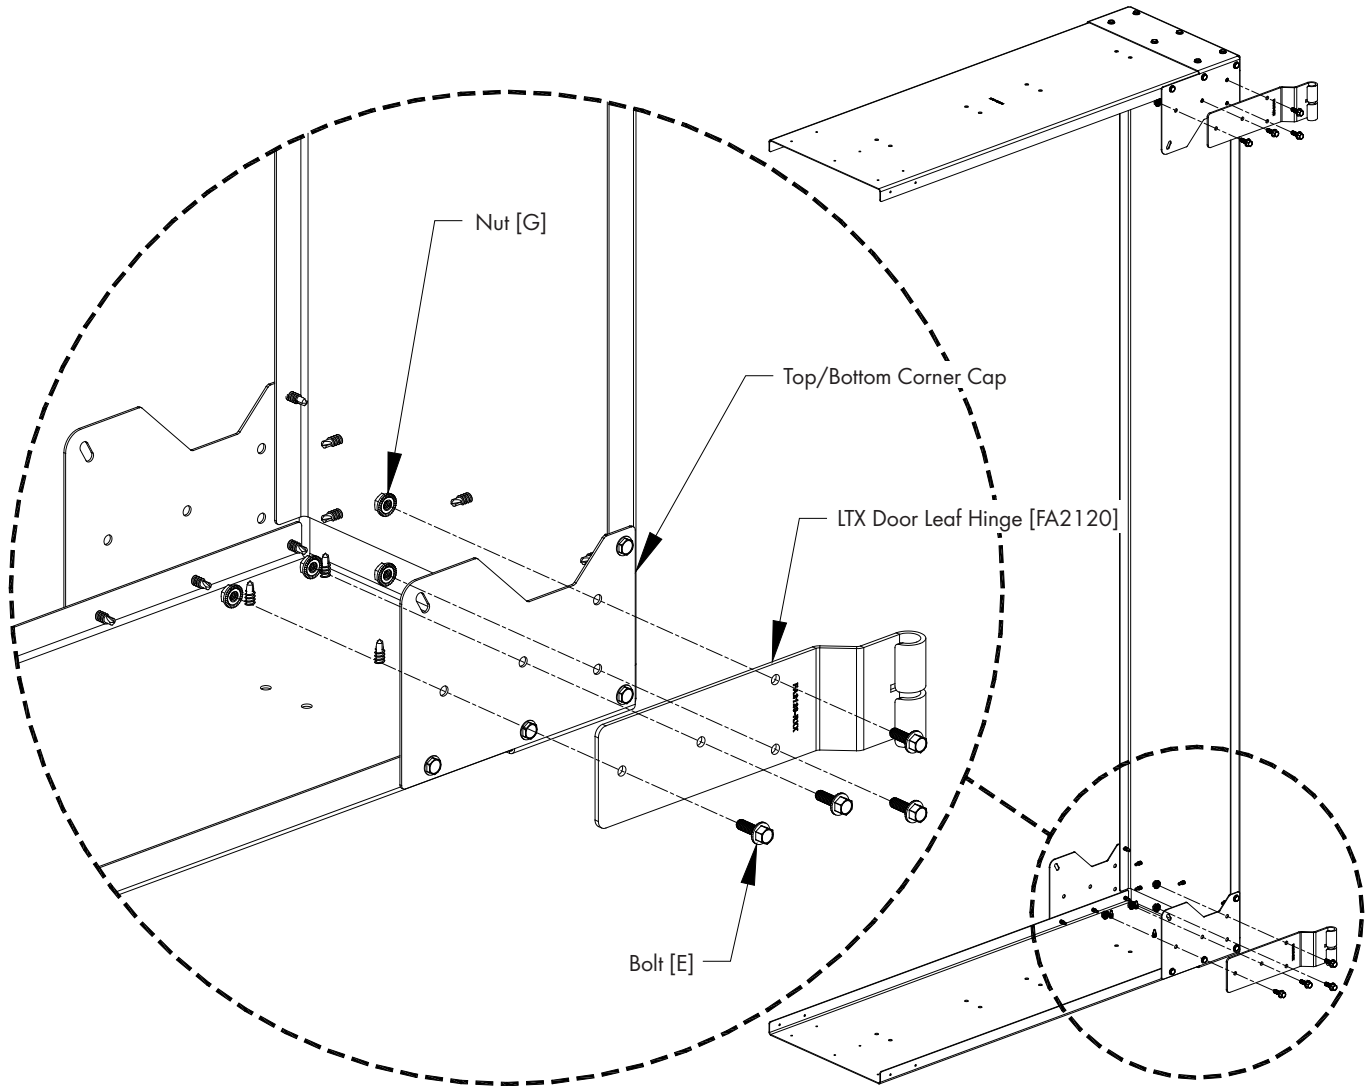

Figure 17
Attach (1) Leaf Hinge [FA2120] to Top Corner Cap and one to the Bottom Corner Cap assembled in the previous step using (4) Bolts [E] and Nuts [G]. See Figure 17.